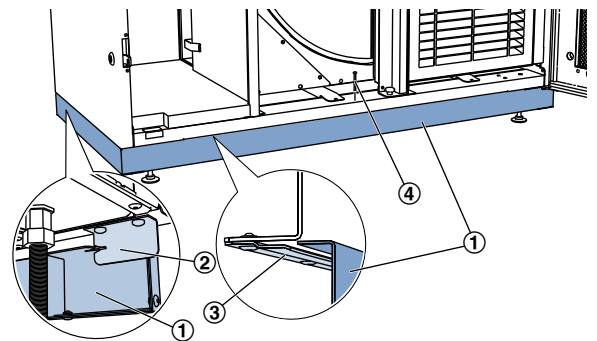

Fig. 21: Matching rear frame (bottom)
17.▶ Open the lower inspection access door to mount the lower matching rear frame (Fig. 21 /1). From the front side, place the matching rear frame on the suspension points, clamping rails (Fig. 21 /3) and plates (Fig. 21 /2). Then fix the matching rear frame in the middle with the screw (Fig. 21 /4).